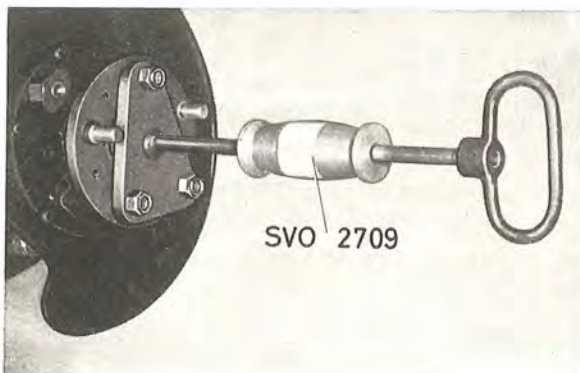

Fig. 4-67. Removing the drive shaft
3. Slacken the bolts for the thrust washer. These are slackened through the holes in the drive shaft flange. Pull out the drive shaft with puller SVO 2709, see Fig. 4-67.
2. Release the bolts for the brake backing plates and brake shoe retainers. They are slackened through the holes in the drive shaft flanges. Pull out the drive shafts with puller SVO 2709, see Fig. 4-67.